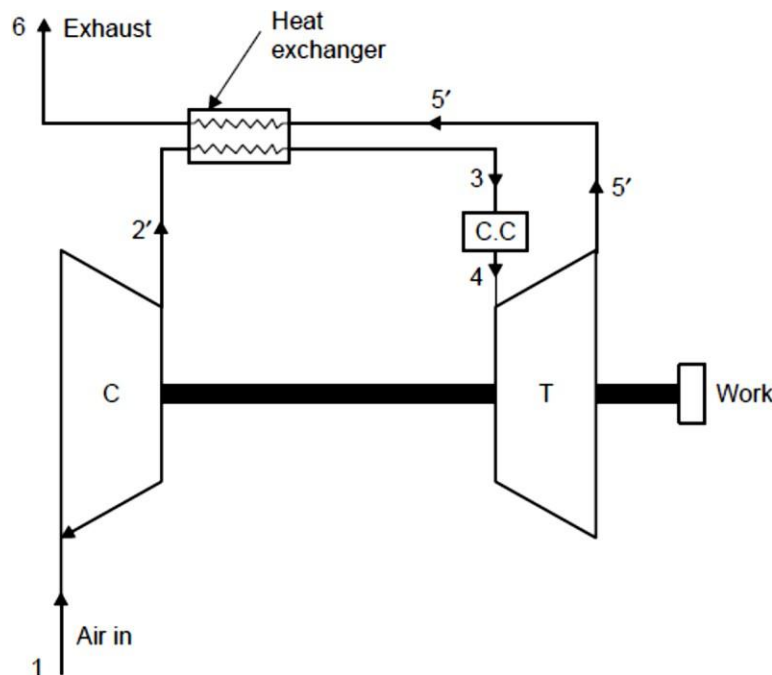
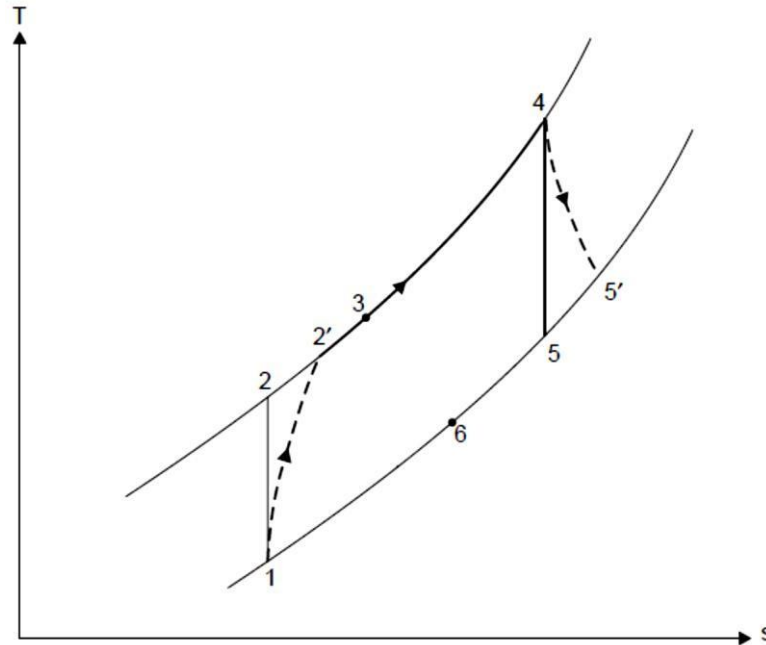

Fig.1.16. Gas turbine with regenerator
Fig.1.17. T-s diagram for the unit
2. **Regeneration:** The exhaust gases from a gas turbine carry a large quantity of heat with them since their temperature is far above the ambient temperature. They can be used to heat the air coming from the compressor thereby reducing the mass of fuel supplied in the combustion chamber. Fig. 1.16 shows a gas turbine plant with a regenerator. The corresponding T - s diagram is shown in Fig. 1.17. 2'-3 represents the heat flow into the compressed air during its passage through the heat exchanger and 3-4 represents the heat taken in from the combustion of fuel.